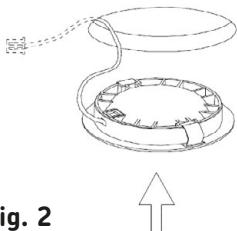

Fig. 2
- Remove the backplate and fit the lamp into the cut-out (see Fig. 2)